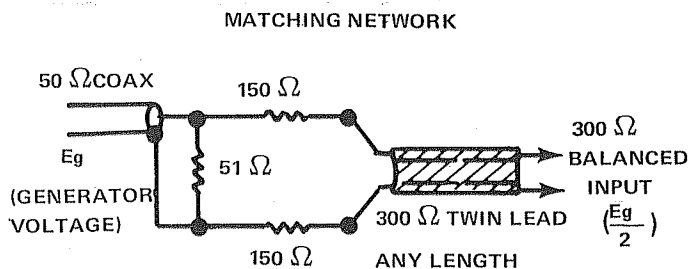

FIGURE 4
3. Match signal generator impedance to FM 300 ohm balanced input impedance by using a balun match or matching network of Figure 4.